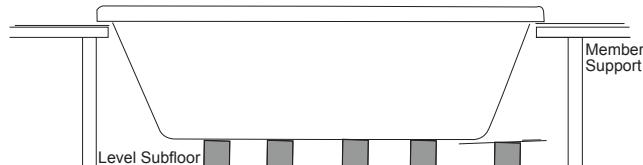

Figure 10 - Support
- 10** Remove scrap lumber and lower the bathtub fully into the opening (Figures 10 and 11).